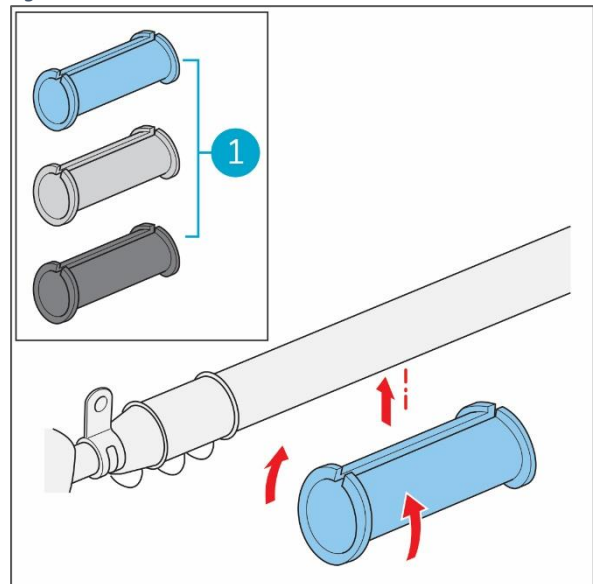

Figure 19
4. Put one of the rubber sleeves (Figure 19, pos. 1) onto the pole you are going to use.